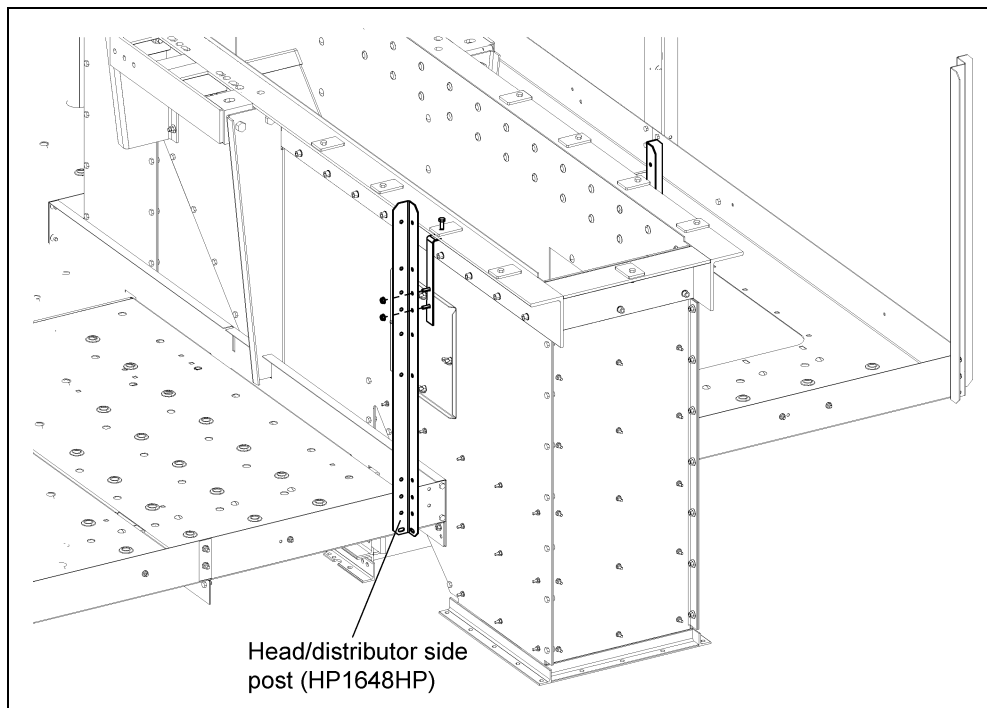

Figure 10F
2. Attach head side post (HP1648HP) to lower head using 5/16" x 3/4" bolts and nuts. (See Figure 10F.)